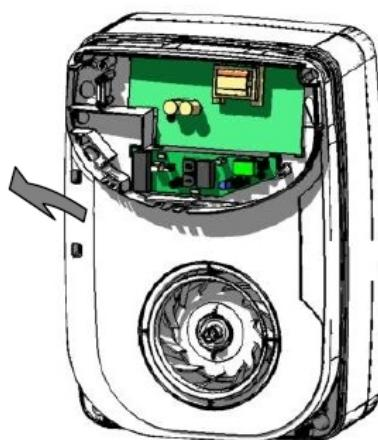
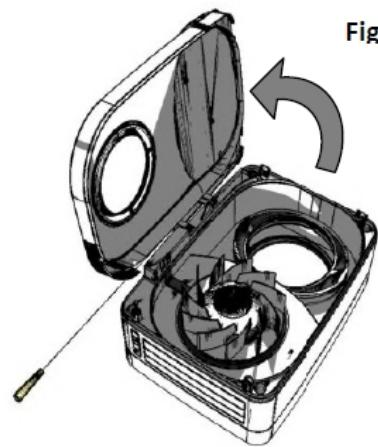

Fig.23
Fig.24
2. Lift where indicated to engage hinges Fig 23 and open Door Fig 24.